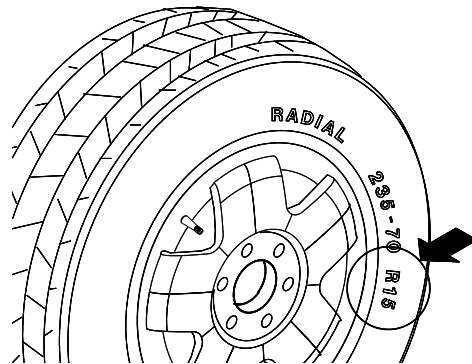

Figure 24
4.5.3.0 Manual Rim Diameter Entry - Select the Manual Diameter button. Read the rim diameter marked on the sidewall of the tire (Figure 24). Press the Diameter Button and enter the measured rim diameter by rotating the shaft until the desired value appears in the right display.